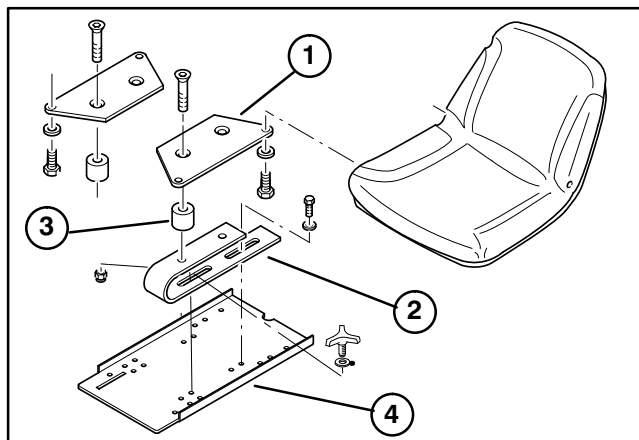

Figure 6
INSTALL SEAT (Fig. 6–7)
1. Mount a seat adapter plate to each seat spring with (2) spacers, socket head screws and locknuts (Fig. 6).
2. Mount each seat adapter plate to bottom of seat with (2) capscrews and washers. Position adapters and springs as shown in figure 6.
4. Loosely mount front of seat springs to seat plate with (2) capscrews and washers and rear with (2) knobs and washers (Fig. 6).